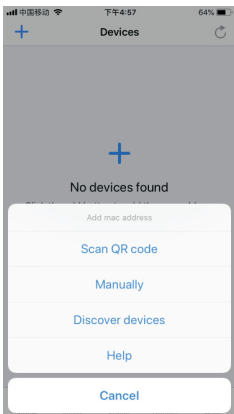
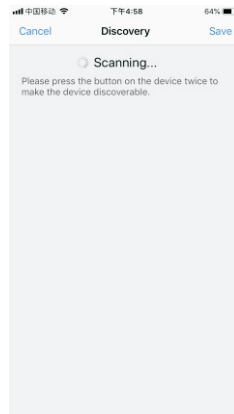

Figure 4
Figure 5
4. Run Easythings APP, tap add button “+” on the APP to add device, then choose “Discover devices” to discover device, then **short press the “Reset” button on the dimmer twice (or reset power of the dimmer twice continuously)** to set the device into pairing to APP mode. (As shown in **Figure 3 & Figure 4 & Figure 5**)